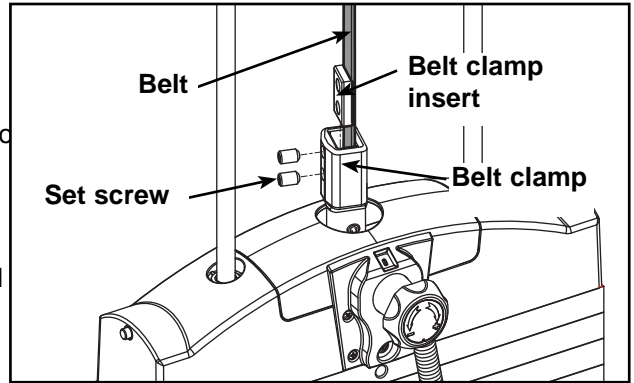

Figure 9
- D. Pull belt tight and secure belt to clamp with the two set screws. **NOTE:** Torque set screws 300-350 in.lbs. See Figure 9.